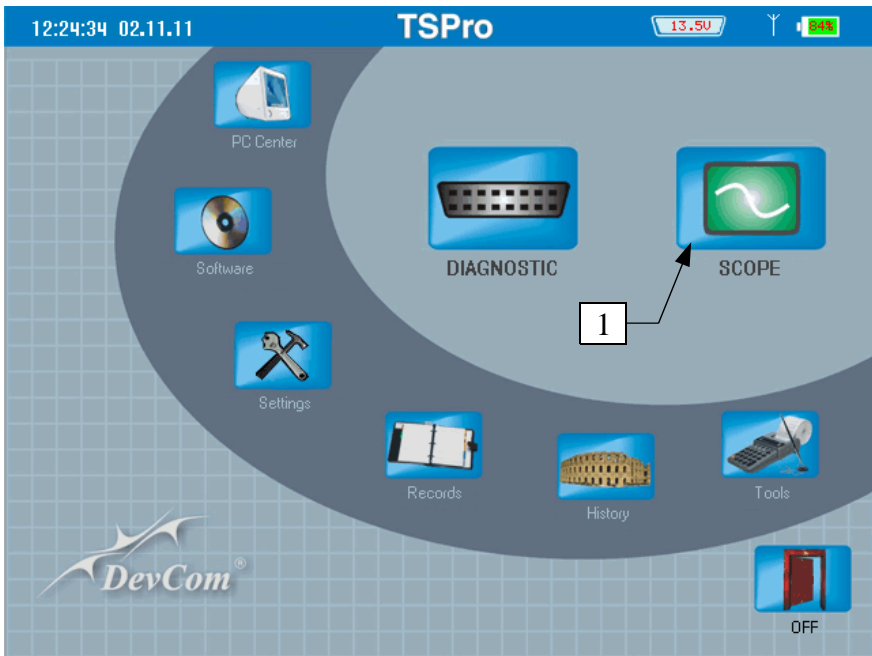
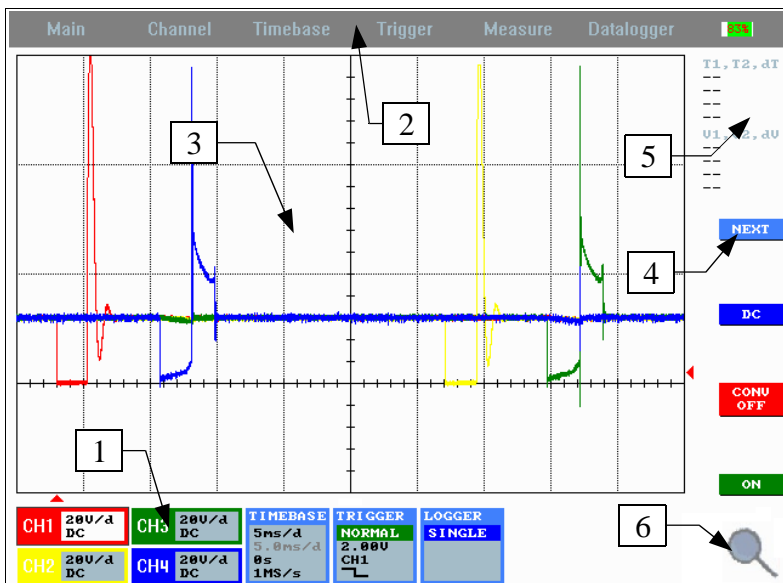
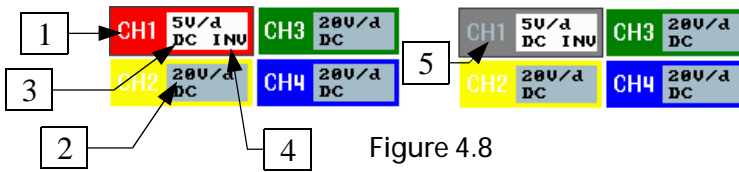
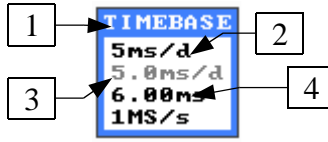

Figure 4.1
Figure 4.3
Figure 4.8
Figure 4.22
To run the oscilloscope select the Scope (1) (see Figure 4.1) option in the main menu and confirm it. When it loads you will see the it's workspace (see Figure 4.3) where the signals are displayed and where you can do the application's settings.
- keys Confirm (ON)/ Back (OFF): You can turn on or off measuring on all the channels simultaneously by pressing these keys. If the measuring is turned off the last measured value is shown in window 3 figure 4.3. The waveform stays displayed also after disconnecting the measured signals. The state of measuring is displayed in the Trigger icon (Figure 4.7).
The actual parameter setting of the individual channels can be seen in the down left corner of the screen. (Figure 4.3 - 1) The way to change the settings is the same for all the channels, so we will show them on the channel 1. (CH1) Let's describe the individual settings following the Figure 4.8.
Here you can see which channel is this one. Color of the icon matches the color of the waveform in the main window (Figure 4.3 - 3).
The waveforms in the main window (Figure 4.3 - 3) are usually displayed as graphs of voltage in time. You have to use special probes to
In this paragraph you will see how to set oscilloscope's time range, e.g. the amount of time displayed in the main window (Figure 4.3). This parameter is the same for all the channels. On Figure 4.22 a window with actual timebase settings is displayed.